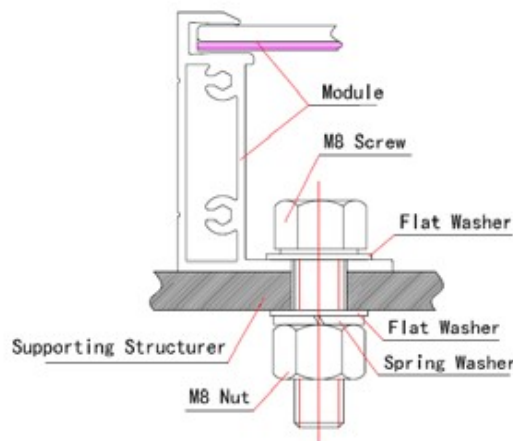

FIG 5 Screw fitting method
- ✚ The module frame must be attached to the mounting system using M8 stainless steel hardware together with spring washers and flat washers in four places symmetrical on the module, as shown in Figure 5.